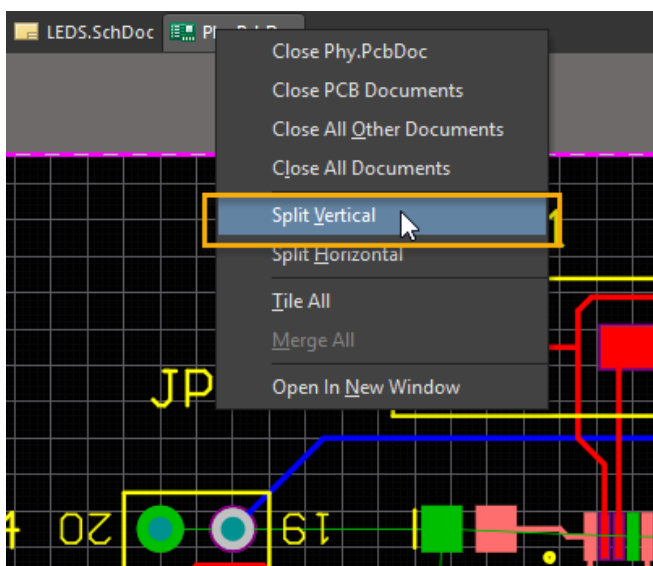

Figure 5. Splitting Vertical Documents on a Single Screen
11. To easily locate the components used from the schematic on the PCB, we will split the view between the schematic and PCB documents. From the *Documents Bar*, right-click on one of the documents and select **Split Vertical** as shown in Figure 5.